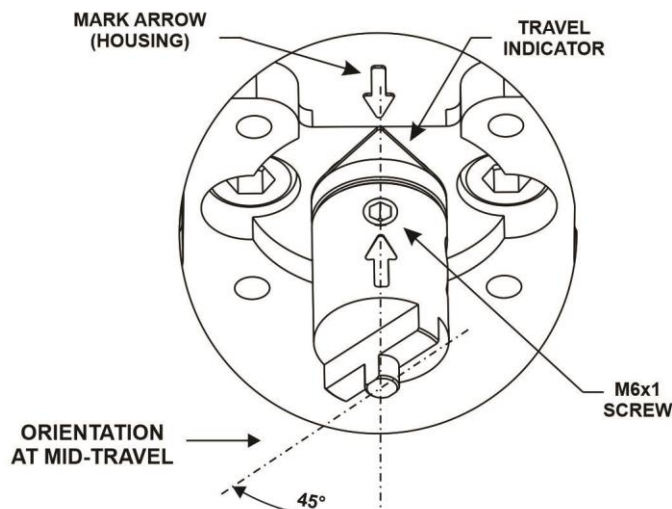

Figure 1.5 – Rotary adaptor assembly orientation on actuator
6. Fit the rotary adaptor onto the feedback shaft of the FY500 and adjust its position on the actuator shaft so that the arrow on the actuator lines up with the arrow mark on the back of the FY500 housing. See figure 1.5.
7. Attach the rotary adaptor to the feedback shaft with one M6 x 10 screw, as shown in figure 1.5. Tighten until the screw enters the part.